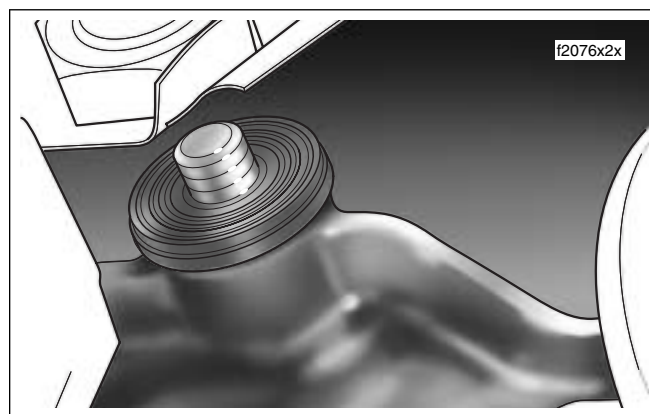

Figure 2-123. Remove Upper Bushing (Right Side)
5. Pull bushing from fork bracket bore and discard. See **Figure 2-123**.
10. Pull bushing from fork bracket bore and discard. See **Figure 2-123**.
4. Moving to top of upper fork bracket, insert bushing into bore fitting collar of bushing over lip of boss. See Figure 2-123.
10. Moving to top of upper fork bracket, insert bushing into bore fitting collar of bushing over lip of boss. See Figure 2-123.